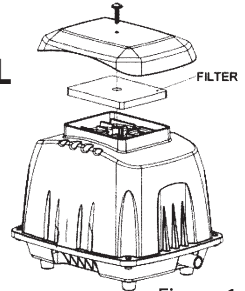

Figure 1
- A. Loosen the screw on top. (As show in Figure1)